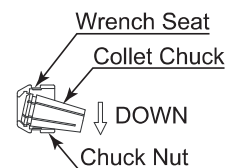
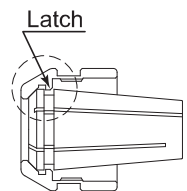

Fig. 5
Fig. 7
- ② The collet chuck and chuck nut are secured by a groove in the collet chuck and a flange in the chuck nut. To remove the collet chuck hold the chuck nut in one hand and push diagonally down on the collet chuck. The collet chuck should be released (Fig. 5).
Press the collet chuck in the chuck nut by positioning the collet chuck in the chuck nut and pressing down on flat surface (Fig. 5). Be sure to fully engage the latch inside the chuck nut into the groove on the collet chuck's outer circumference area (Fig. 7).